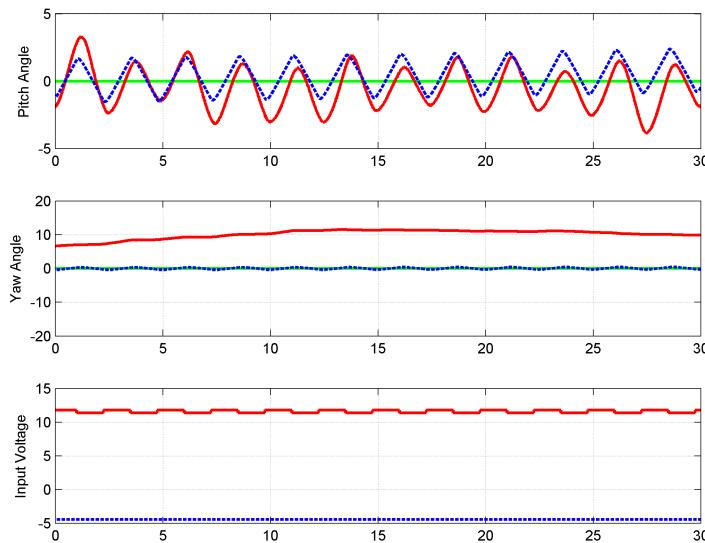

Figure 5.21: Open-loop pitch step
10. In the *Desired Voltage* subsystem, set the frequency of the *Signal Generator: Pitch (V)* block to 0.4 Hertz, the *Amplitude: Pitch (V)* gain block to 0.2, and the *Constant Pitch (V)* to 0.
11. As shown in Figure 5.21, the measured and simulated pitch angles are quite close. The pitch viscous damping term B_p was estimated by tuning its value online as the controller is running. To do this enter a value for B_p in the Matlab command window, for example $B_p = 0.8$. Because the parameter change is made in Matlab (and not directly in the Simulink model), the controller that is running must be updated for the changes of this parameter to take effect. The change can be applied by clicking on the *Edit* menu in the Simulink model and selecting the *Update Diagram* item. Alternatively, controller parameters can be updated by use the keystroke CTRL-D whenever the Simulink model is active.